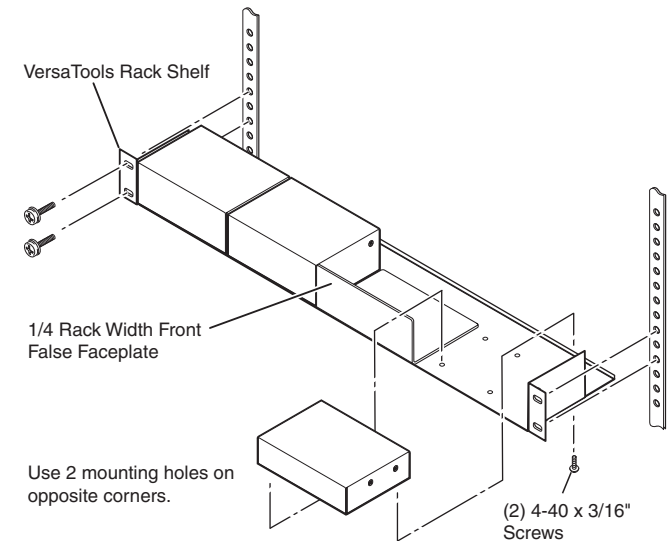

Figure 2-1 — Mounting the transceiver on a VersaTools rack shelf
The following Underwriters Laboratories (UL) requirements pertain to the installation of the FOX HD-SDI transmitter or receiver into a rack (figure 2-1).
- RSF 123 3.5" deep 1U VersaTools® rack shelf kit (part #60-190-20) (figure 2-1)